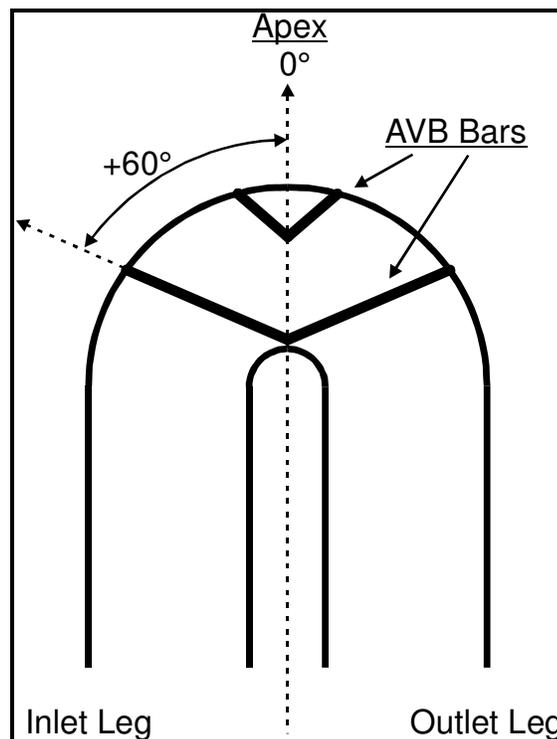

Figure 26. Understanding the ANGLE Value for UBEND Landmarks, i.e., AVBs
- **ANGLE:** Enter the angle where a UBEND landmark, i.e., AVB, intercepts the UBEND. This angle value is measured as either a positive or a negative value in reference to the centerline of the tube bundle. The vertical centerline is considered  $0^\circ$ . As shown in Figure 26, positive values correspond with landmarks on the inlet side of the centerline while negative values coincide with landmarks on the outlet side of the centerline. This setting works with the FIRST and LAST values discussed below.